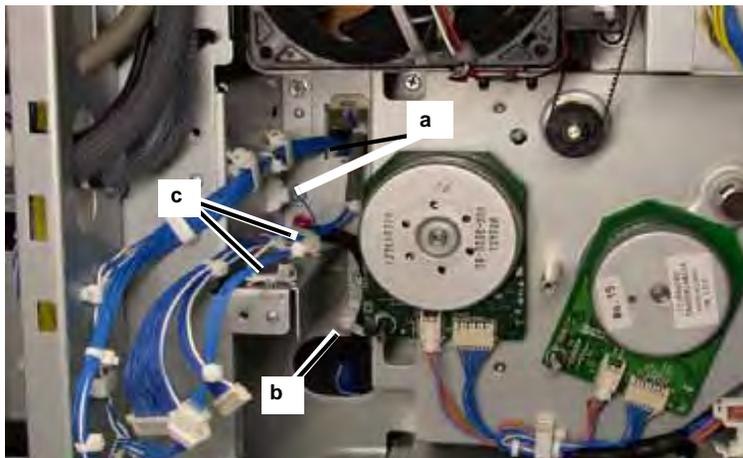

Figure 5 Wire Harness
7. Perform the following (Figure 5).